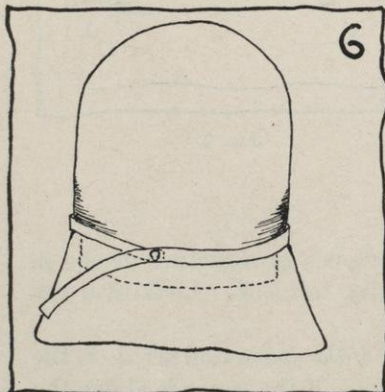

FIG. 6.
- (1) If you plan to make the crown and the brim of your hat in one, and have no trimming around the crown, lay a flat tape tightly around the bottom of the crown and tack with one thumb tack, so that there will be no mark such as the cord makes (see Figure 6).